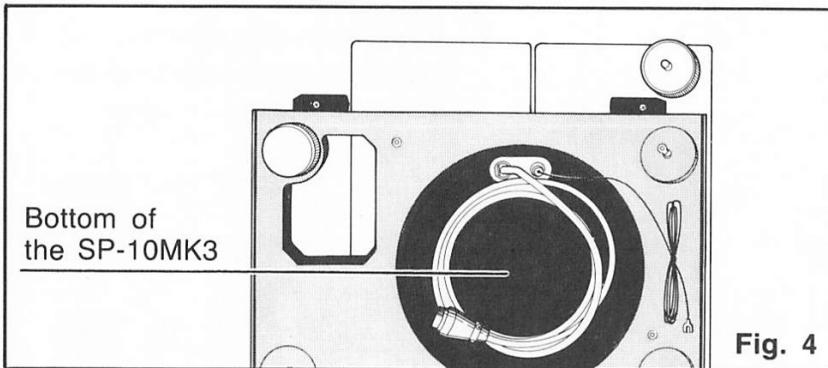

Fig. 4
③ Insert the turntable base, with its bottom facing upward as shown. (Fig. 4)